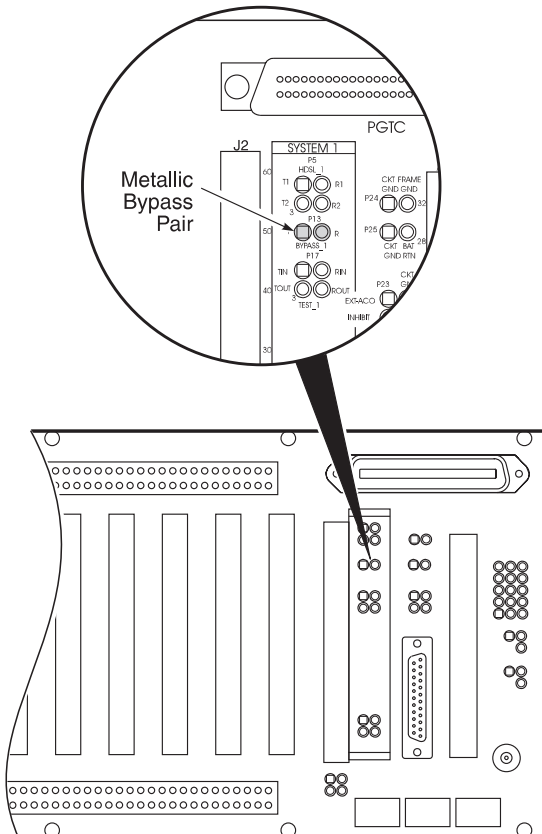

Figure 7. Connecting the Metallic Bypass Pair
8.4 Bypass Pairs. If subscriber drop testing is required, connect the metallic bypass pairs (Figure 7):